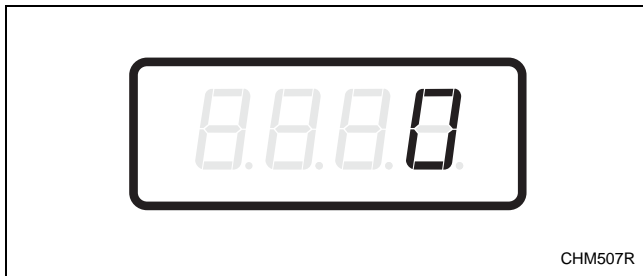

Figure 12
4. When “AtS7” appears in the display, press the START (enter) keypad. There are five digits in the Quick/Hot Vend Price. The fifth digit will appear in the display and will flash one (1) second on, one (1) second off. Refer to *Figure 12*.